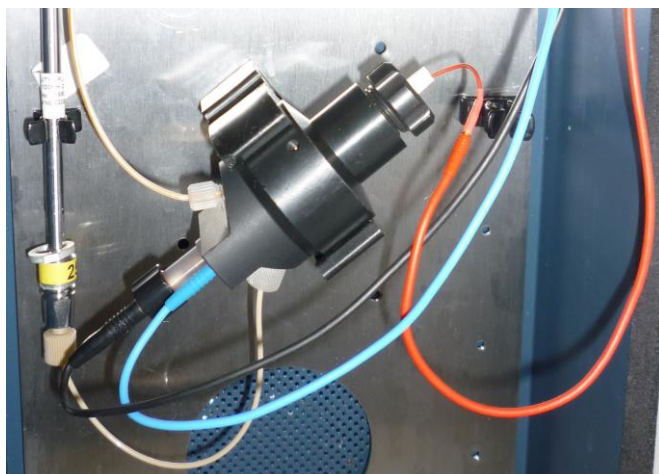

Fig. 6. Flow cell with cell cable connected. WORK, AUX and REF electrodes are respectively connected using the red, blue and black lead of the cell cable.
9. Place the cell under an angle of 45° in the detector oven compartment with the outlet facing upward and connect the cell cable as illustrated in Fig. 6.